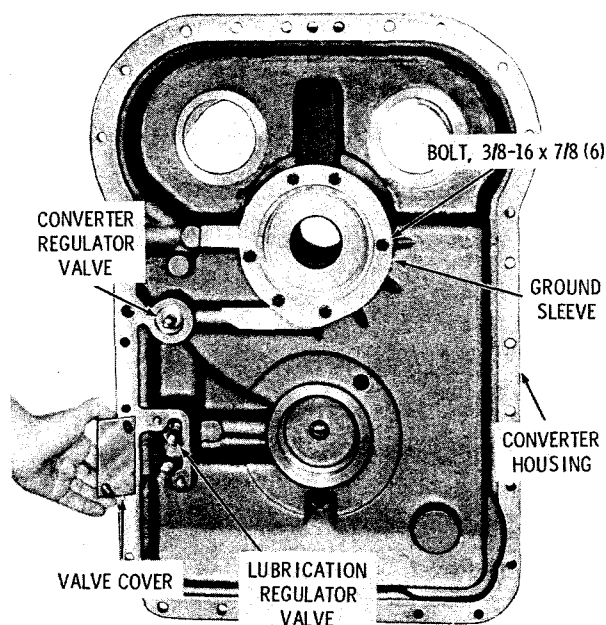

Fig. 6-11. Torque converter housing assembly
(1) Remove the two self-locking bolts that attach the lubrication regulator valve cover, and remove the cover (fig. 6-11).
(4) Remove the converter ground sleeve only if replacement is necessary (fig. 6-11). If necessary, remove the six self-locking bolts that attach the ground sleeve to the housing. Then position the housing, rear downward, and press the ground sleeve from the housing.
(5) Remove plug 15 (B, foldout 3) only if necessary for replacement or cleaning the oil passage.
(1) If plug 15 was removed, replace it. Tighten the plug to 33-37 lb ft (45-50 N·m).
(2) If the converter ground sleeve (fig. 6-11) was removed, see rework procedures in paragraph 6-9a(3). Chill the replacement sleeve in dry ice for several hours prior to installation. Install two headless guide bolts (3/8-16 x 2-1/2-inch) into the ground sleeve mounting pad to maintain alignment during installation. Install the ground sleeve and press it firmly into the converter housing. Remove the guide bolts and install the six bolts 23 (B, foldout 3) to retain the sleeve. Tighten the bolts to 36-43 lb ft (49-58 N·m).
(4) If the lubrication pressure regulator valve components were removed, install spring 13 and valve 14 onto guide pin 12. If removal hole is drilled through the housing, apply a nonhardening sealer into the pin bore prior to installing the pin. Press the guide pin into the housing until the top of the pin is 1.13 inches (28.70 mm) above the top surface of the valve.
(5) Install the lubrication pressure regulator valve cover (fig. 6-11), and retain it with the two 3/8-16 x 3/4-inch self-locking bolts. Tighten the bolts to 36-43 lb ft (49-58 N·m).